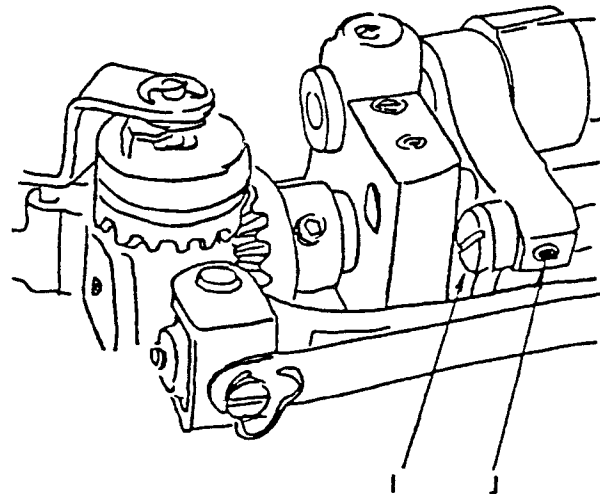

Fig. 25-4
1. Turn handwheel toward front of machine until feed dog (C) is at its highest position.
2. Loosen set screw (J) holding feed lifting fork connection hinge stud (eccentric) (I). (Fig. 25-4).